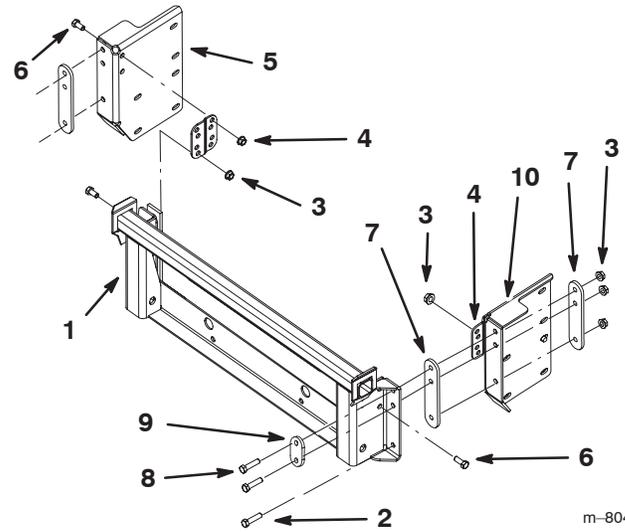

Figure 4
Important When installing the bagger onto a liquid cooled machine, the rear bumper plate must be removed. Use 4 long frame spacers for this installation, 2 per each side (Fig. 4).
1. Install the side brackets to the bagger mounting bracket (Fig. 4).
2. In the top two holes, install 2 bolts (3/8 x 1-1/2 inch), 2 flange nuts (3/8 in.), 2 long frame spacers, and one short frame spacer (Fig. 4).
Note: Make sure the long frame spacers are installed as shown in figure 4.
3. In the bottom hole, install a bolt (3/8 x 1-1/4 inch) and a flange nut (3/8 in.) (Fig. 4).
4. Install a bracket stiffener to the side bracket and bagger mounting bracket. Use 4 bolts (3/8 x 3/4 inch) and 4 flange nuts (3/8 in.) (Fig. 4).
5. Repeat the previous steps for the opposite side (Fig. 4).